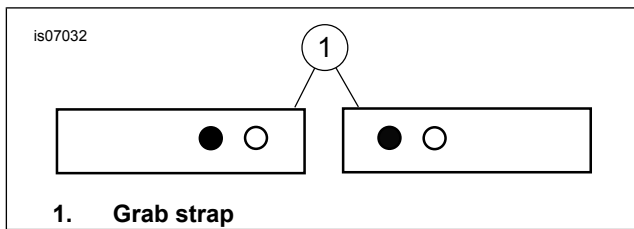
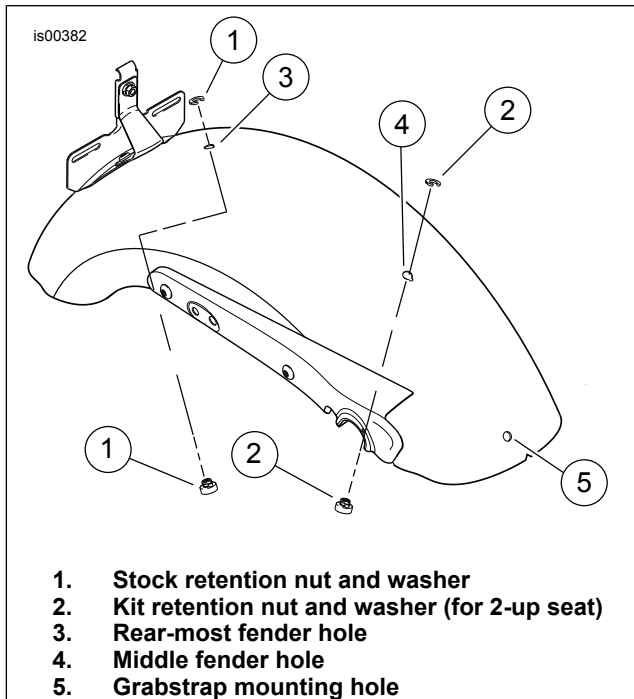
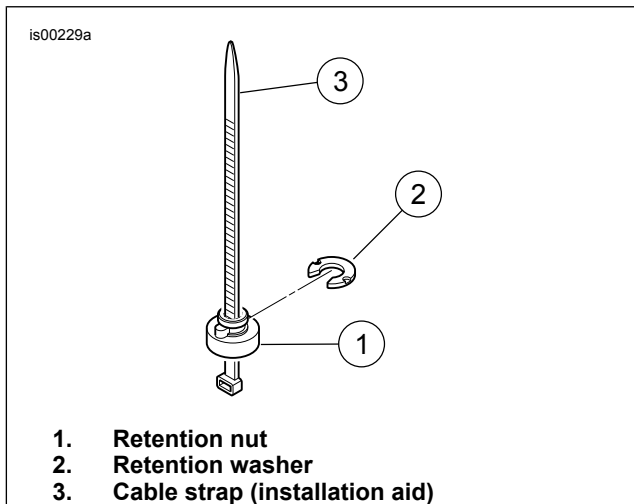
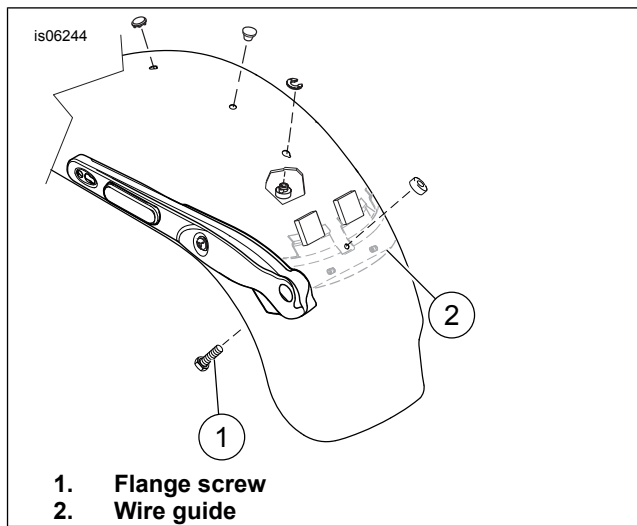

Figure 1. Grab Strap Hole Installation
Figure 2. Retention Nut Location
Figure 3. Install Retention Nut
Figure 4. Grab Strap Installation - FXDWG Models
3. See Figure 1 for information on which holes to install grab strap through (use the hole shown dark in the illustration). Install new grab strap onto motorcycle at same location old grab strap was removed (re-use existing hardware). Tighten to 6.78–10.17 N·m (60–90 in-lbs). **For 2010 and Later FXDWG Models:** See Figure 4. Verify that the head of the flange screw (1) is clear of the wire guide (2) and is installed against the fender.
2. See Figure 2. Remove the plastic cap from the rear most fender hole (3).
4. See Figure 3. A cable strap may be used as an installation aid to remove and install the retention nut and washer. Place the retention nut (1) over the cable strap (3) so the wide end of the nut rests on the eye of the cable strap. Thread the cable strap up under the fender and through the rearmost fender hole. Pull up on the cable strap to hold the nut snug against the underside of the fender.
5. With the rib on the retention nut seated into the notch in the fender hole, slide the retention washer (2) into place from the rear. This will lock the retention nut in place. Remove the cable strap.
7. Install the flange screw from the inside of the fender into the grab strap mounting hole in the fender ( Figure 2, Item 5). Secure the screw with the plastic seat retention nut. **For 2010 and Later FXDWG Models:** See Figure 4. Verify that the head of the flange screw (1) is clear of the wire guide (2) and is installed against the fender.
8. Install new passenger strap from kit according to the diagram in Figure 1. Install washer and nut and tighten nut to 6.78–10.17 N·m (60–90 in-lbs).